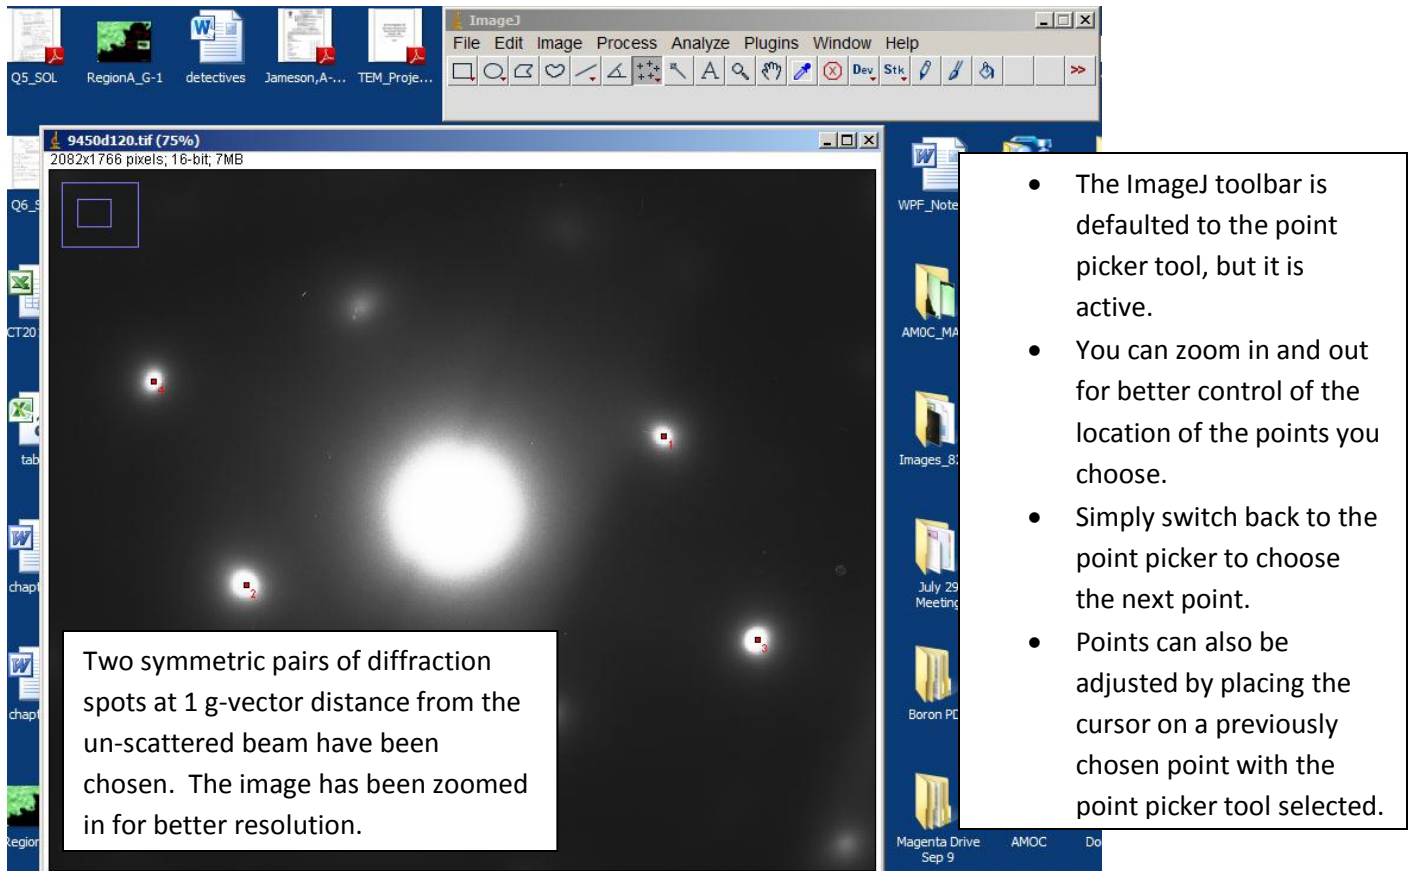

Figure 4: Four diffraction spots have been chosen, just click OK at this point
4. The point picking tool is active, so you need to select four diffraction spots by clicking on them one by one. To obtain valid results, the four chosen spots need to be two symmetric pairs located at 1 g-vector distance from the un-scattered beam. Once four spots are selected, click OK (Figure 4).